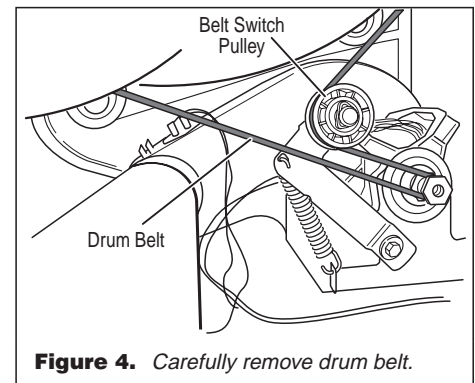

Figure 4. Carefully remove drum belt.
5. Check the belt switch and motor. Access the belt switch and motor by removing the back panel. See page 8. Carefully remove the drum belt from the spring-loaded belt switch pulley, gently letting the belt switch pulley down. See figure 4.